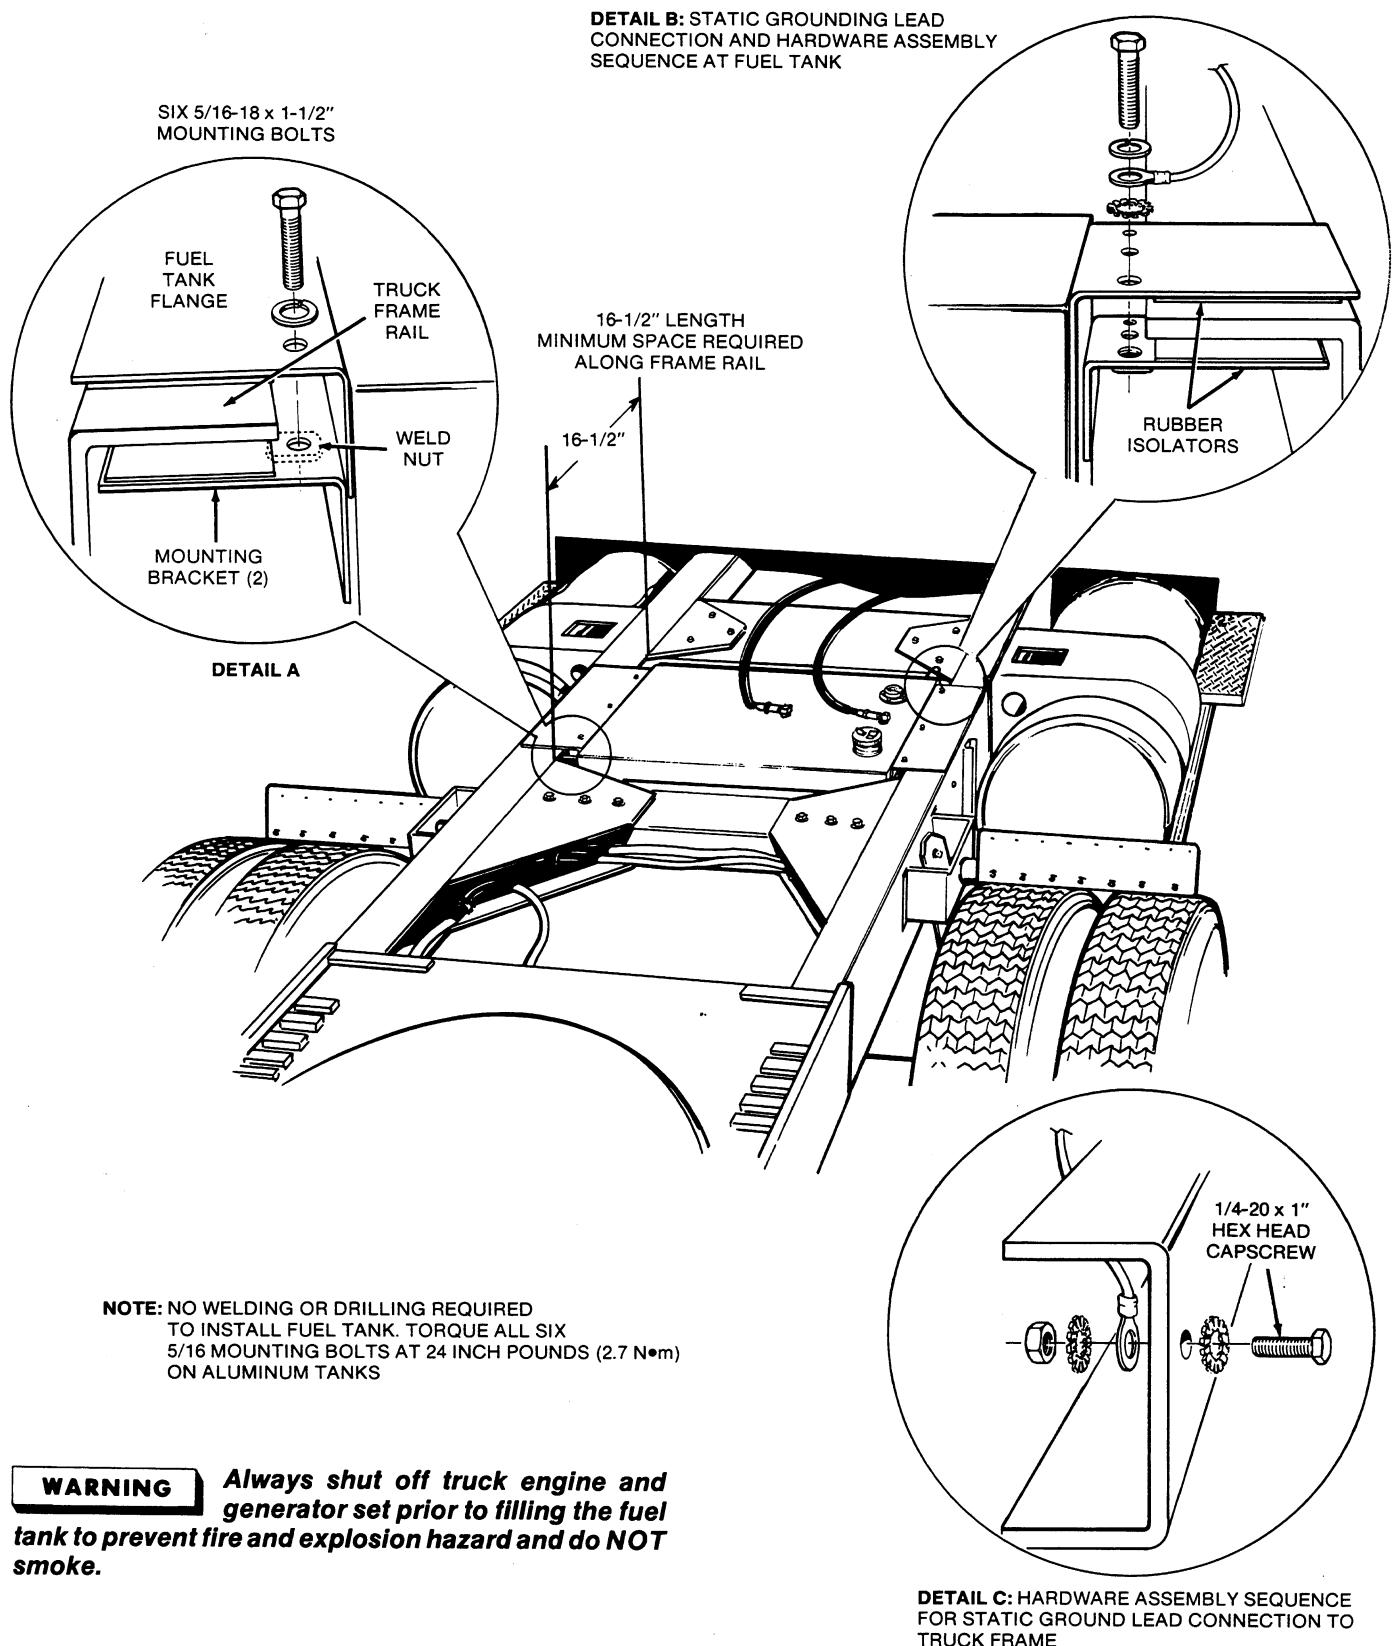

FIGURE 9. FUEL TANK INSTALLATION
Install remote fuel tank using the assembly sequence illustrated in Figure 9. Perform the steps in order listed to minimize installation problems. All component parts necessary to install the fuel tank are supplied in fuel tank kit 415-0506.
2. Position the two L-shaped mounting brackets on the inside (underneath) of the top truck frame rail flange (one on each side), so that weld nuts in brackets line up with pre-drilled mounting holes in fuel tank flanges as shown in Figure 9. The
Pre-drilled mounting hole location in fuel tank flange is usually adequate to securely fasten fuel tank in most installations. Some trucks may have variations in width of frame rail flange area or width between truck frame rails that could require spacing and drilling new mounting holes in fuel tank flanges. When installed, the vertical surface of the mounting bracket should rest against the side of the fuel tank and the wider surface area of the mounting bracket (surface with rubber isolation pad) should be relatively close to radius of truck frame rail. See detail A in Figure 9. If not, new 3/8 inch mounting holes will have to be spaced and drilled in fuel tank flange as required so that fuel tank is held securely in position.
3. Install 5/16-18 x 1-1/2 inch hex head capscrews and lockwashers in center mounting holes only (one on each side). Mounting hardware assembly sequence is shown in Figure 9, detail A.
4. The 18 inch 12-gauge static ground lead must be installed under the most convenient fuel tank mounting screw as dictated by physical location and layout of truck chassis components in each installation. Fuel tank terminal end of ground lead is a 5/16 inch eyelet terminal. Install this terminal under most convenient 5/16 inch capscrew and lockwasher on top of fuel tank mounting flange. See Figure 9, detail B. The remaining chassis end of static grounding lead has 1/4 inch eyelet terminal. Locate a nearby hole in truck frame rail within reach of the lead and attach terminal with 1/4-20 x 1 inch screw, lockwashers, and nut. Hardware assembly sequence is shown in Figure 9, detail C.
5. Install three remaining 5/16-18 x 1-1/2 inch hex head capscrews and lockwashers in fuel tank mounting brackets. Hardware assembly sequence is shown in Figure 9, detail B. Torque all six mounting screws to 24 inch pounds (2.7 N•m).